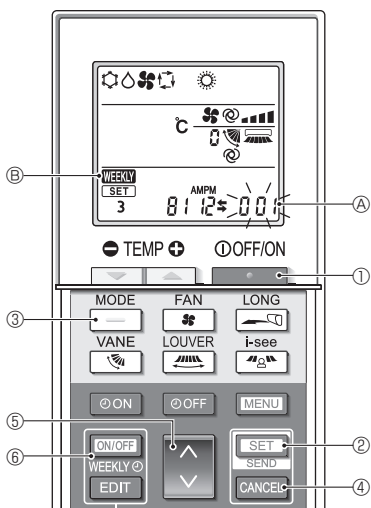

Fig. 4-12
4.12.8. How to disable Auto mode operation (Fig. 4-12)
1. Press the **STOP** button ① to stop the air conditioner.
- If the weekly timer is enabled, press the **ON/OFF WEEKLY** button ⑥ to disable the timer. (**WEEKLY** ⑥ disappears.)
2. Press the **SET** button ② for 5 seconds.
- The unit enters the function setting mode. (The group model setting number ④ blinks.)
3. Press the **UP** button ④.
4. Completing the settings (Fig. 4-12)
- Press the **SET** button ② for 5 seconds.